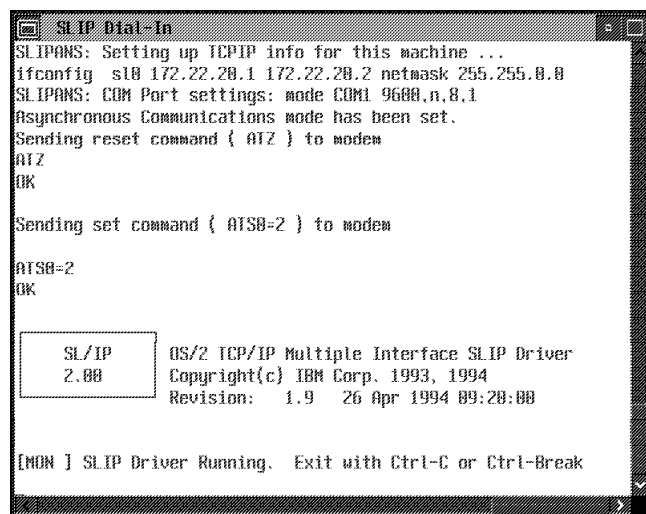

Figure 3-2. SLIP Driver Correct Status
3. Verify that the SLIP driver is running as shown in Figure 3-2. If you do not have this message, an error message is displayed. See Figure 3-3 on page 3-6. As recommended, verify that the modem is properly configured and connected.
Note: These two addresses are displayed in Figure 3-2 on page 3-5 or in Figure 3-3. In this example, the NAS SLIP IP address is 172.22.20.1 and the Network Support Center SLIP address is 172.22.20.2.